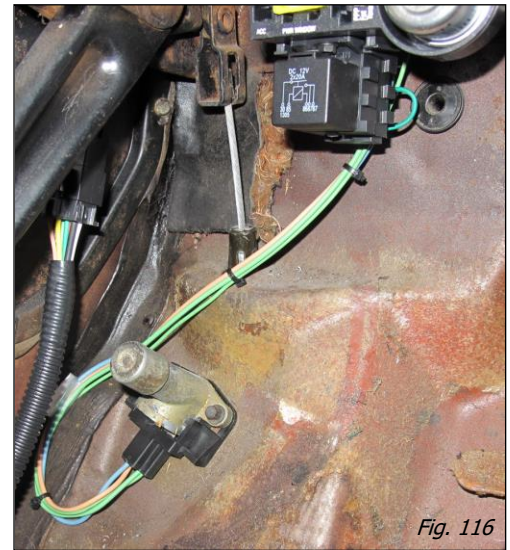

Fig. 116
- Using the original screws or two of the black, 3/4" self-tapping screws found in the parts kit, mount the dimmer switch to the floor board. There should be adequate length on the wires to enable you to re-use the existing holes in the floor (see Fig. 116).